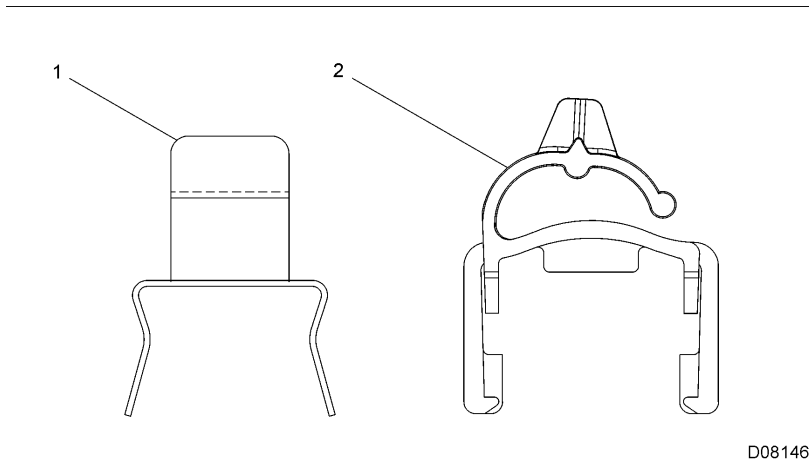

Figure 9 Rocker Arm Retaining Clip Designs
7. Disengage rocker arm from push rod while rotating rocker arm and compressing rocker arm clip simultaneously. Remove rocker arm and retaining clip (see Figure 9) (early design). Repeat procedure for adjacent rocker arm.